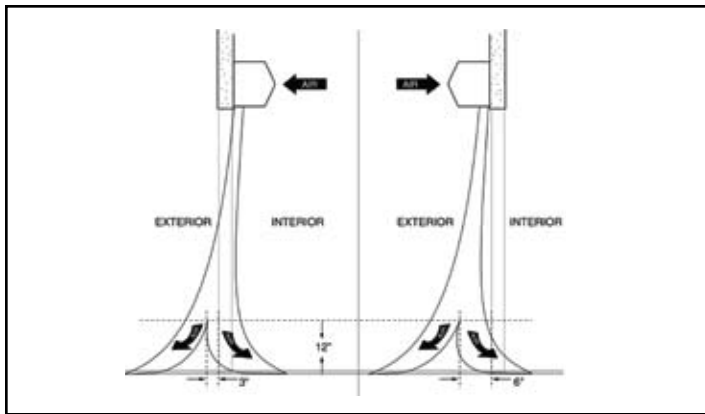

FIGURE 7 - Air Flow Adjustment
- B. Find the air stream split location. Hold a handkerchief, by its corners, approximately 12" above the floor. Gently move the handkerchief back and forth in the doorway. Make sure the air is being directed to both the inside and the outside. The split location is indicated where the handkerchief is vertical with minimal or no fluttering. **See Figure 7.**